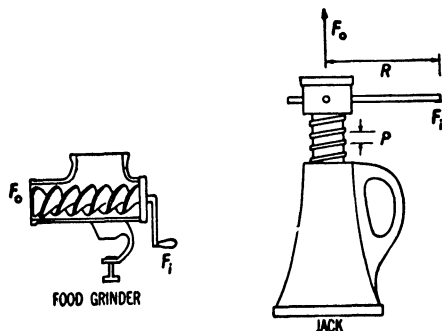

Fig. 4.7. Screw machines.
21. The Screw. A screw machine is used when a large mechanical advantage is needed in order to lift a heavy load. A jackscrew is shown in Figure 4.7. When the handle of a screw